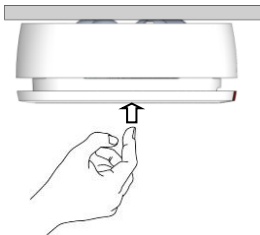

Figure 12
1. Press the cover up firmly (see Figure 12). If the detector is functioning correctly, a fire alarm is activated (see *Visual / Audible Indicators*) and an alert message is sent to the system receiver.